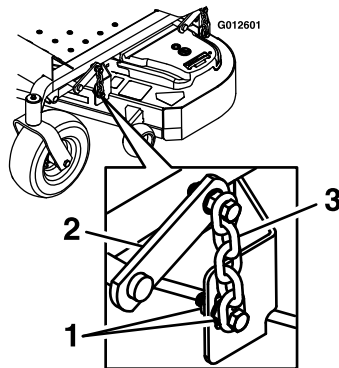

Figure 26
7. Loosen the leveling adjust locking nuts (item 1 Figure 26) on all four corners so that the deck is sitting securely on all four blocks. Make sure that the slack is removed from the deck hangers and the deck lift foot lever is pushed back against the stop, then tighten the four leveling adjust locking nuts.